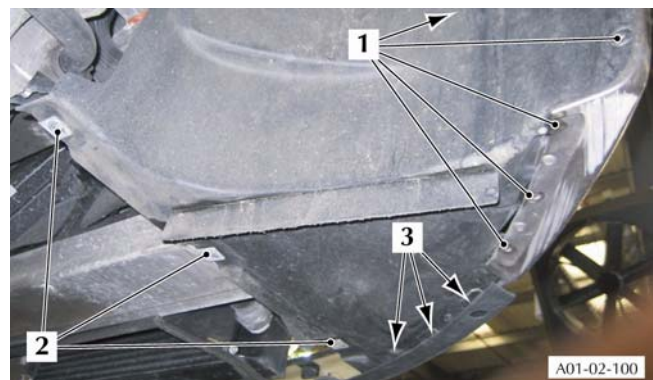

Figure 1 - Front Wheelarch Liner Attachment (Right side shown)
5. Move the valance away to get access to the wheelarch liner attachment screws (refer to Figure 1).
7. Install the three screws (3) that attach the wheelarch liner to the front valance (refer to Figure 1).
8. Install the three M6 Torx screws (2) that attach the wheelarch liner to the front undertray.
9. Install the five screws (1) that attach the wheelarch liner to the bumper.